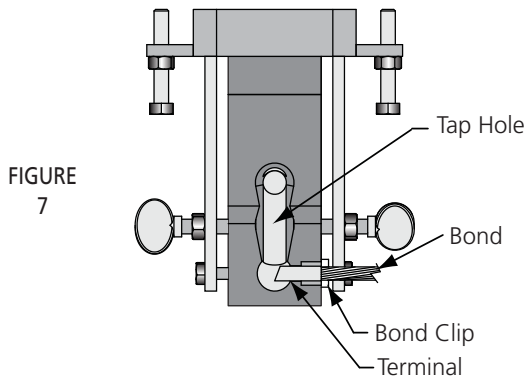

FIGURE 7
1. Place bond in welder with flat surface against rail web and end of terminal against bond clip. This correctly positions the bond in the weld cavity. Be sure the bond clip is in good condition and properly positions the terminal under the center of the tap hole as shown. **See Figure 7.**